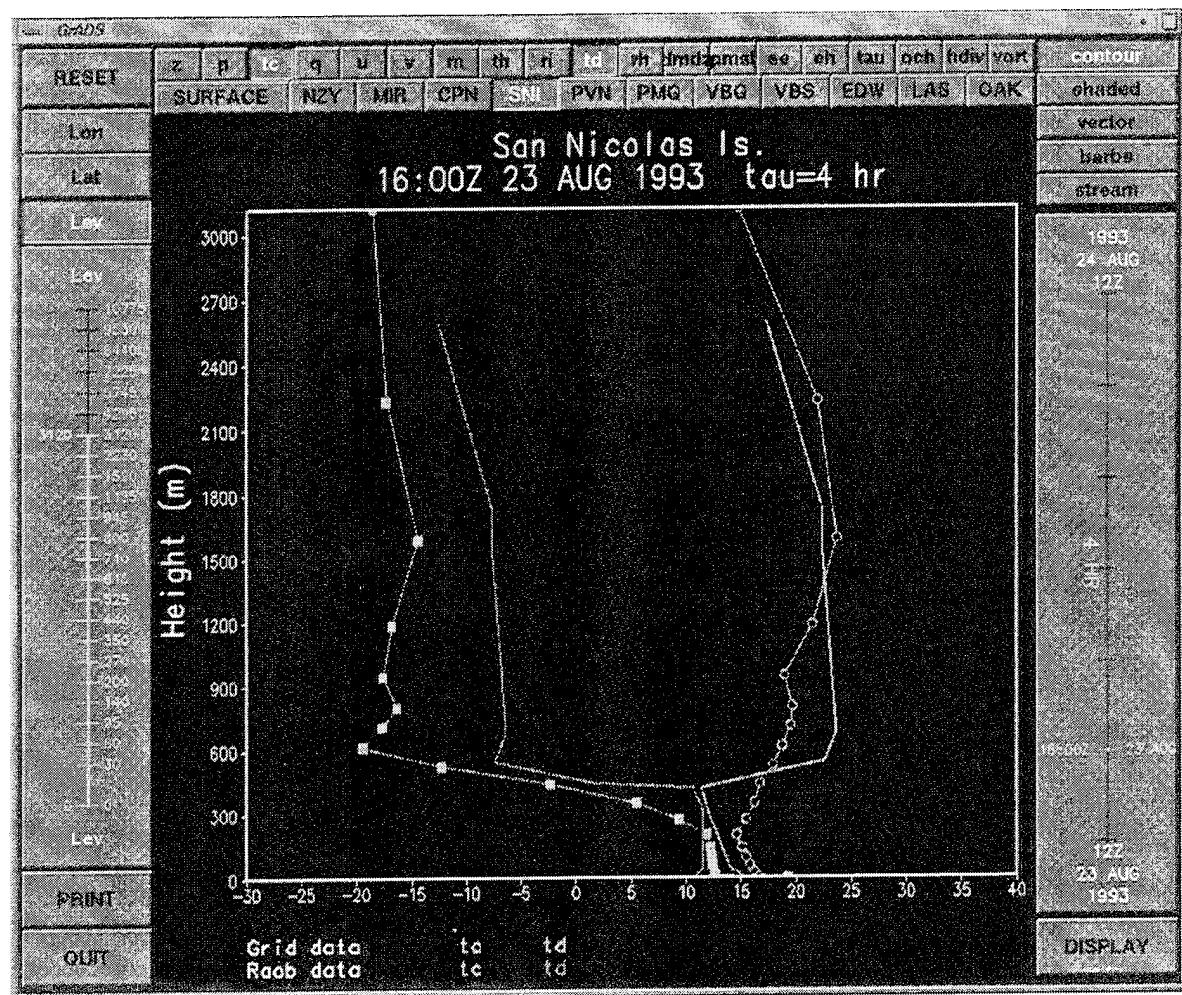

Figure 13. Typical radiosonde and model profiles.
7.4 Upper Air Station Data Display. Upper air data and model vertical profiles are displayed (Fig. 13) the same as gridded data by either clicking 'DISPLAY' or clicking the right mouse button in the window's central area.